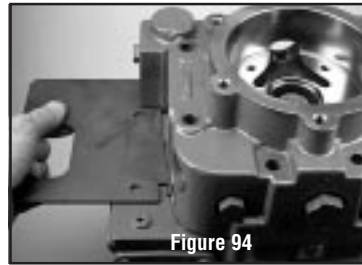

Figure 94
After installation remove the four dowel pins and carefully remove the alignment tool (2) using caution as not to disturb the housing gasket. (see Figure 94)